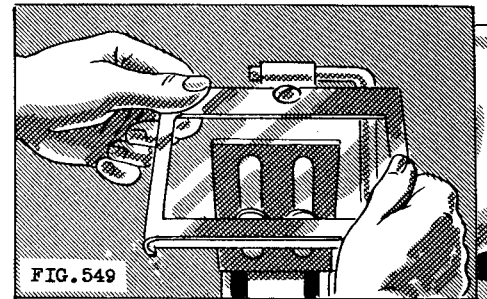

FIG. 549
7. Adjust the safety-glass shields on the grinder to permit a clear vision of the part to be ground and, at the same time, to protect the operator from flying particles (Fig. 549).